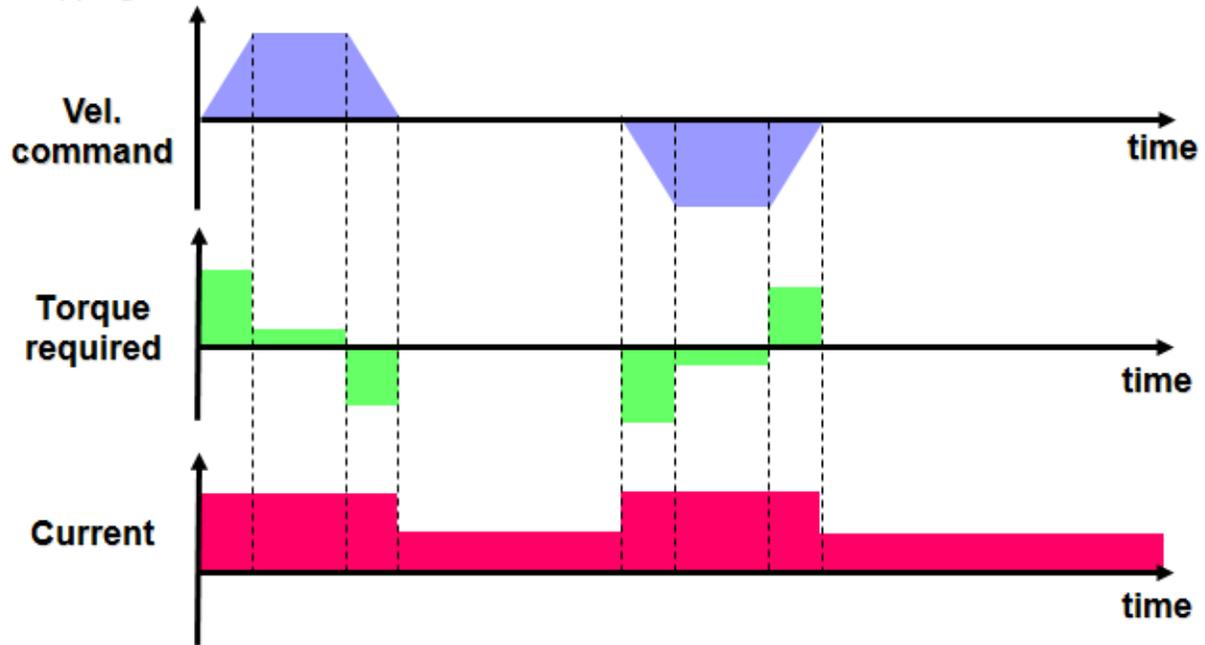
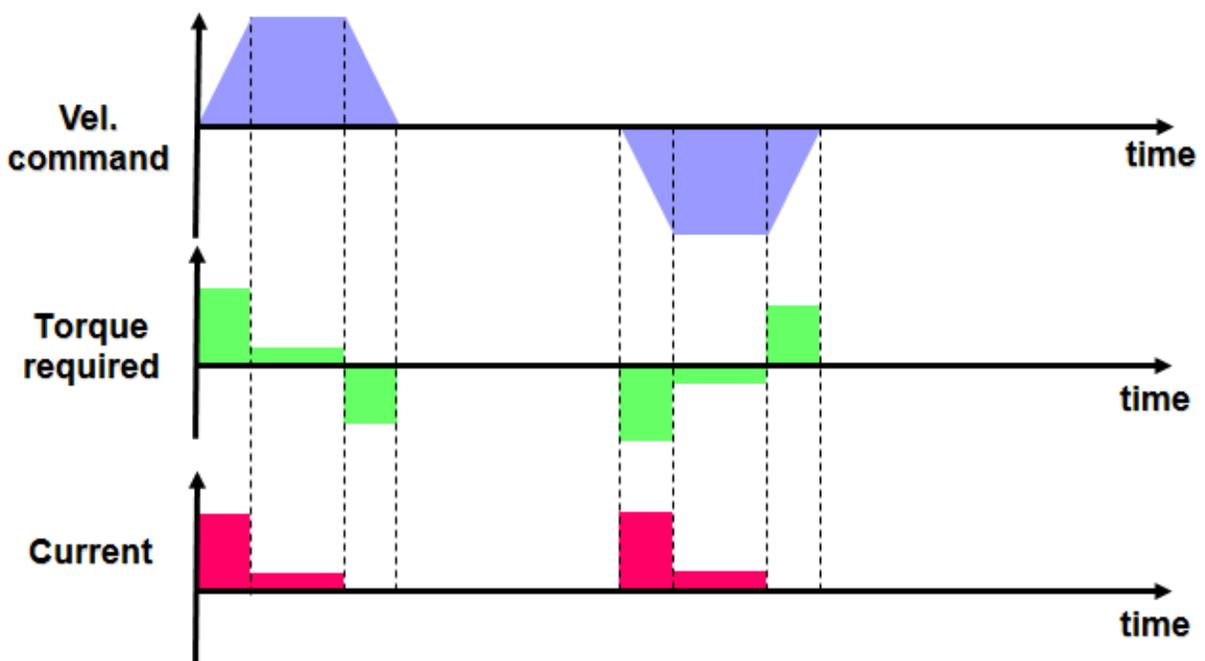

Figure 3
Figure 4
- **Higher Efficiency and Energy Savings** – A significant amount of energy can be saved with a servo as compared to a stepper system. Stepper systems operate by sending full rated current in sequence to the motor windings while the motor is moving, regardless of the application requirements. Most stepper systems have an idle current reduction setting which allows the current level to be reduced automatically when the motor is not moving, typically to 50% of full rated current. Servo motors only use the current required in the application at any given point in time. Figure 3 shows the amount of current used by a stepper motor during a common move profile: move one direction, dwell, move the other direction. Figure 4 shows the amount of current used by a servo motor for the same move profile. The stepper motor uses full rated current while the motor is moving and uses ½ rated current while the motor is idle. The servo motor uses much less energy because it only uses the current required.